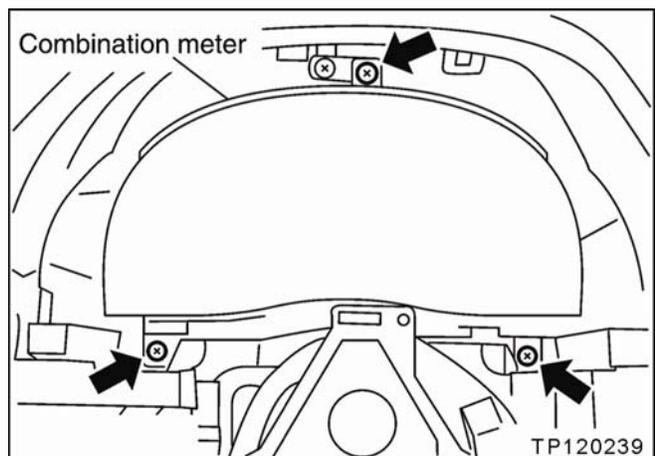

Figure 6
10. Remove the combination meter (see Figures 6 – 9).